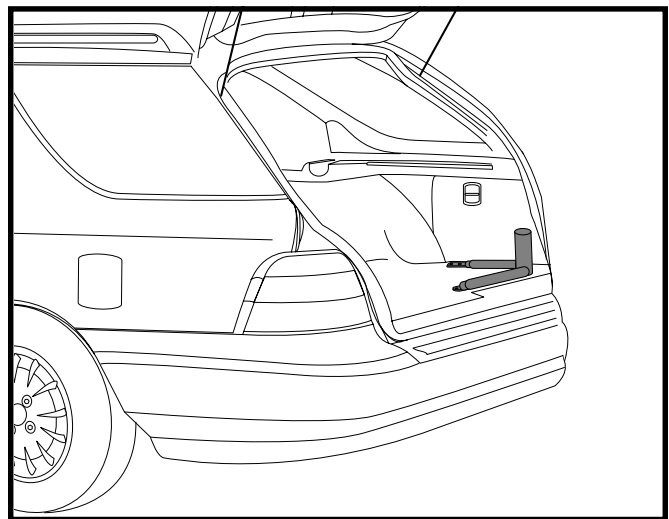
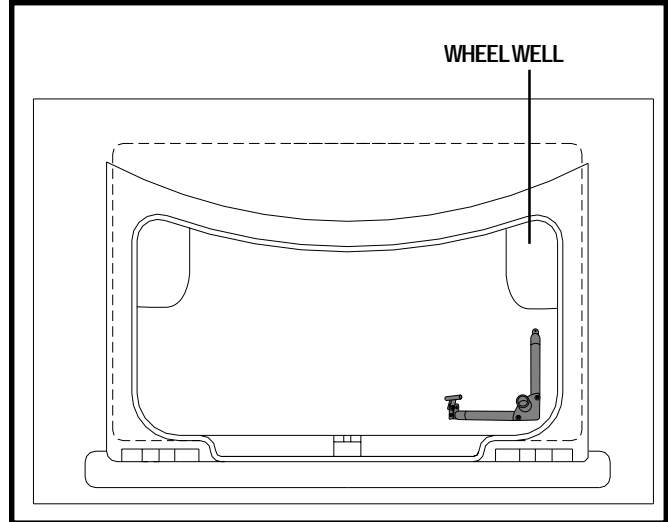
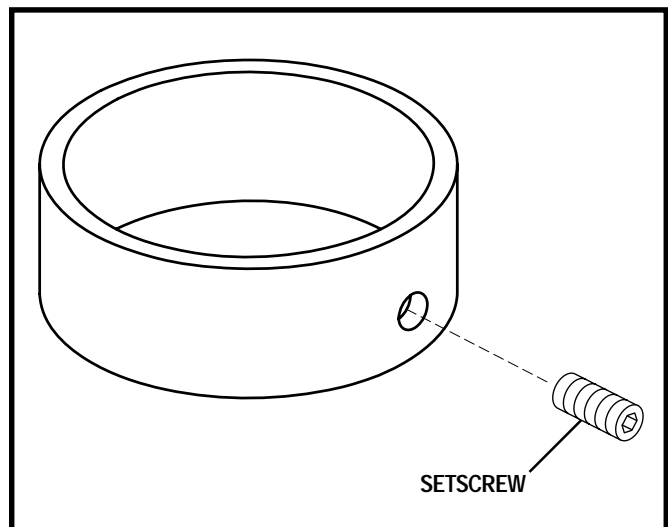

Figure 3. L-Base (Hatchback Installation)
Figure 4. L-Base (Trunk Installation)
Figure 6. Height Adjustment Ring Assembly
2. Before permanently installing the lift, place the L-base inside your vehicle in the area in which you intend to install it. See **figure 3** for L-base positioning for SUV's and vehicles with hatchbacks, or **figure 4** for trunk installation.
Position the L-base as shown in **figure 3**. You may need to situate the L-base so the wheel well does not interfere with the L-base extensions. Ensure there is adequate room for a mobility product to comfortably fit into the trunk.
2. Slide the height adjustment ring (see **figure 6**) over the upper post and tighten the setscrew (a good starting point is approximately 12 in. (30.5 cm) down from the top of the upper post). See **figure 4**. To ensure safe operation, the height adjustment ring must be secured no closer than 6 in. (15 cm) from the top of the upper post.